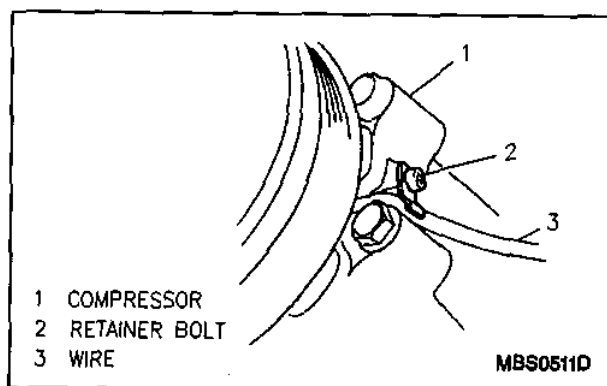

Figure 6—Clutch Coil Wiring Retainer and Bolt
Figures 6 and 7
3. Clutch coil wiring retainer from compressor housing, one screw (Figure 6).